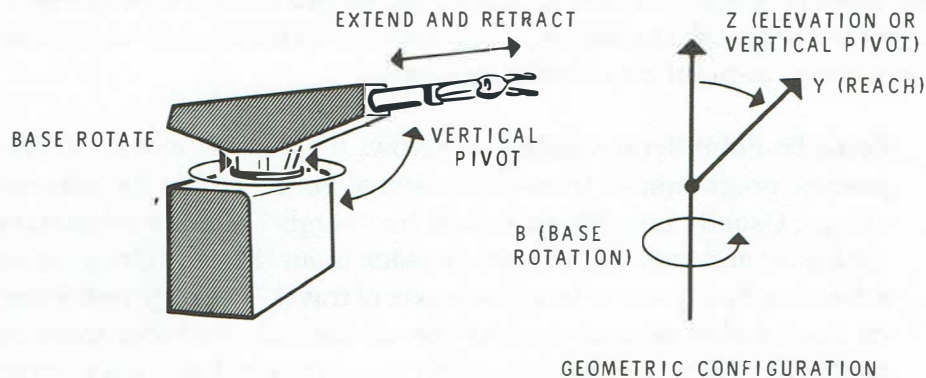

Figure 1-7
**SPHERICAL COORDINATE ROBOT** — This type of robot, as shown in Figure 1-7, can be compared to the turret of a tank. The manipulator extends and retracts, pivots in the vertical plane, and rotates in the horizontal plane about the base. The work envelope forms a small portion of a sphere.